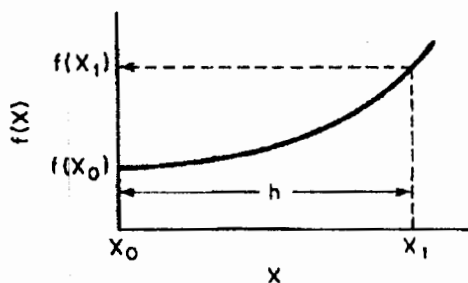

Figure A-2 Trapezoidal rule illustration.
1. *Trapezoidal rule* (two-point) (Figure A-2). This method is one of the simplest and most approximate, as it uses the integrand evaluated at the limits of integration to evaluate the integral: